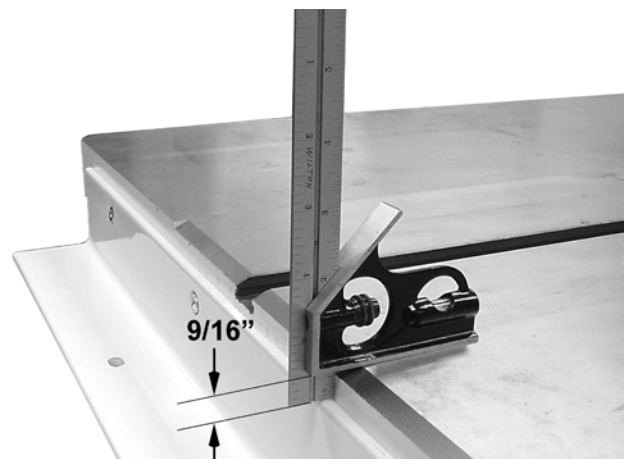

Figure 3
3. Place an adjustable square on the table as shown in Figure 3.